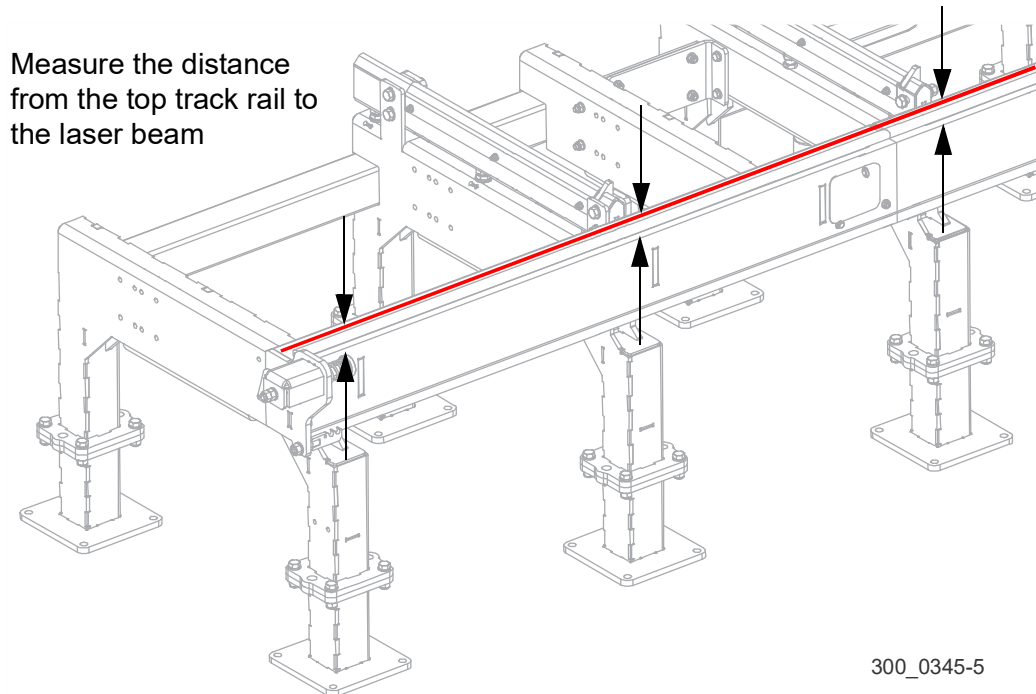

FIG. 3-30
8. Repeat at each leg location along the length of the main bed tube. See Fig. 3-30.